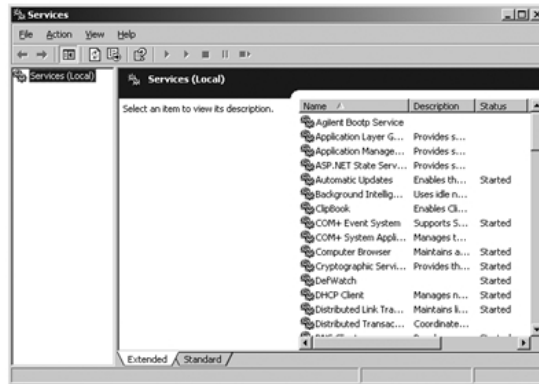

Figure 48 Windows Services screen
- 1 In the Windows control panel, select **Administrative Tools > Services**. The **Services** screen appears, see Figure 48 on page 279.